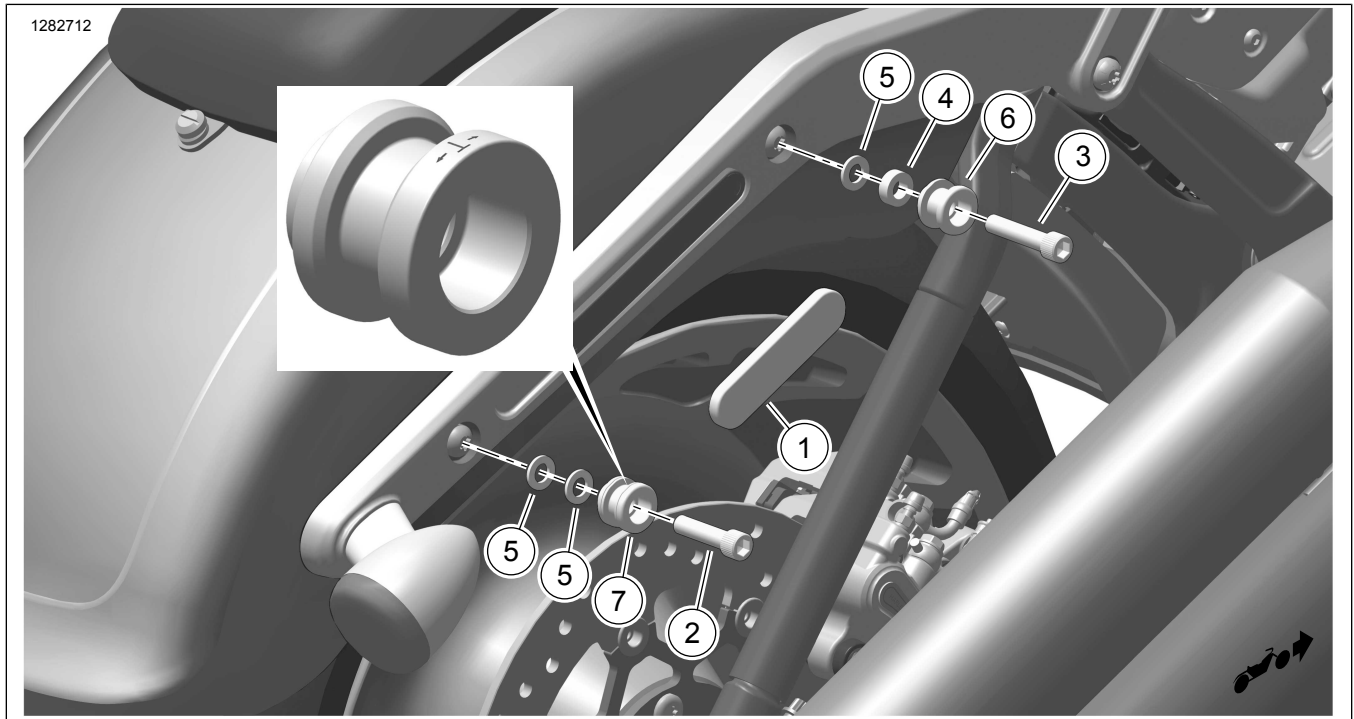
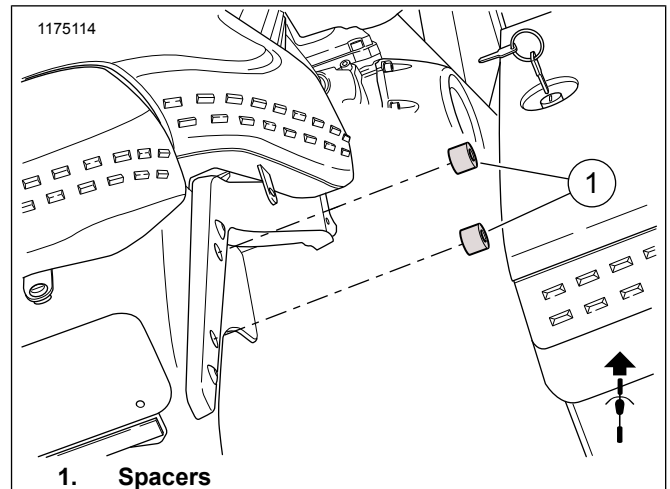
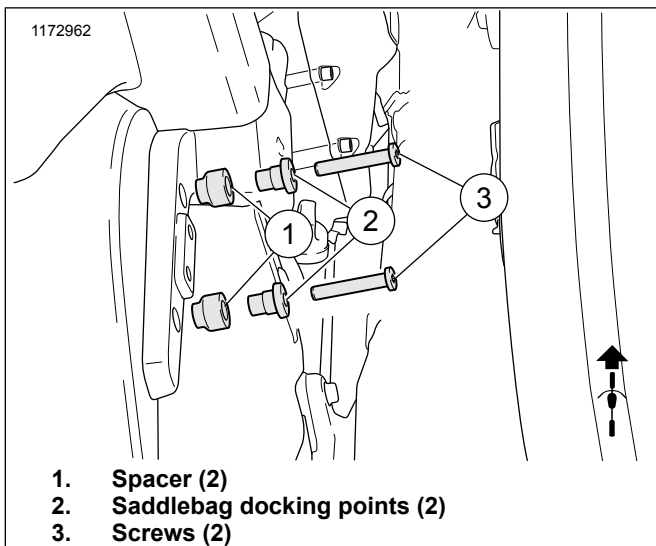

Figure 1. Kit Contents: Holdfast Docking Hardware Kits (Typical)
Figure 3. Replace OE Spacers with Docking Points (FLHC)
Figure 4. Replace OE Spacer with Docking Point (FLSB, FXLRST)
2. See Figure 1. **FLFB and FXBR:** Remove both right side OE screws.
- a. **Front:** One each thin spacer (5) and thick spacer (4).
- b. **Rear:** Two thin spacers (5).
- a. **Front:** One thick spacer (4).
- b. **Rear:** One thin spacer (5).
5. See Figure 3. **FLHC:** Remove right side saddlebag from vehicle.
- b. Remove OE screws and loose spacers (1) attaching saddlebag to vehicle.
- e. See Figure 3 and Figure 4. Replace loose spacers (1) with docking points. The plastic docking points (2) in rear end of vehicle.
6. See Figure 4. **FLSB, FXLRST:** Remove right side saddlebag from vehicle.
- a. Remove OE screws (3), saddlebag docking points (2) and spacers (1).
- b. Remove threadlocker from OE screws (3) and mounting hole threads. Refer to CLEANING FASTENER THREADS.
- c. Discard inner spacers (1) and replace with docking points from kit. The plastic docking point goes in the rear most position.
2. See Figure 1. Apply threadlocker to screws (2).